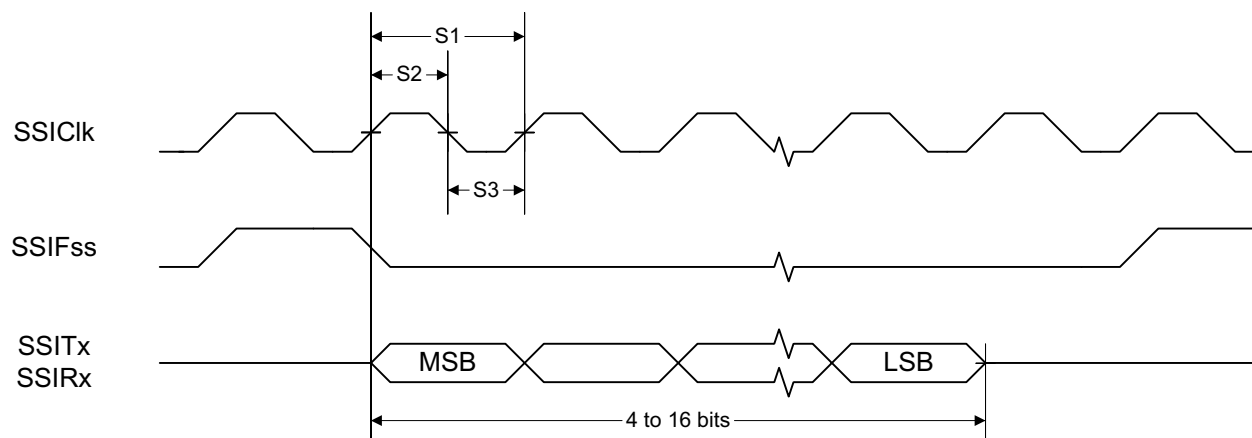
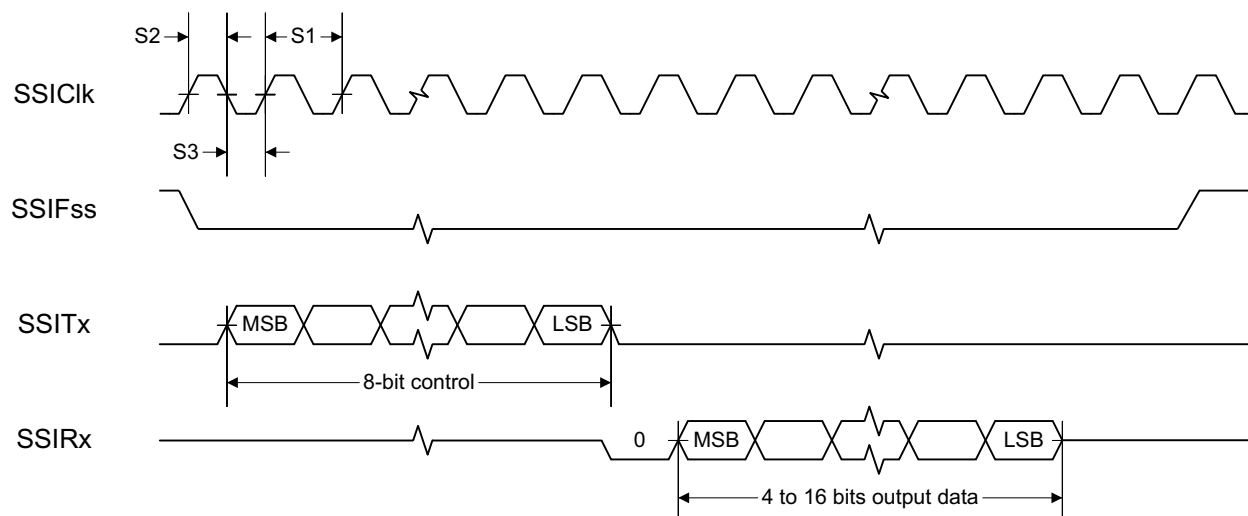
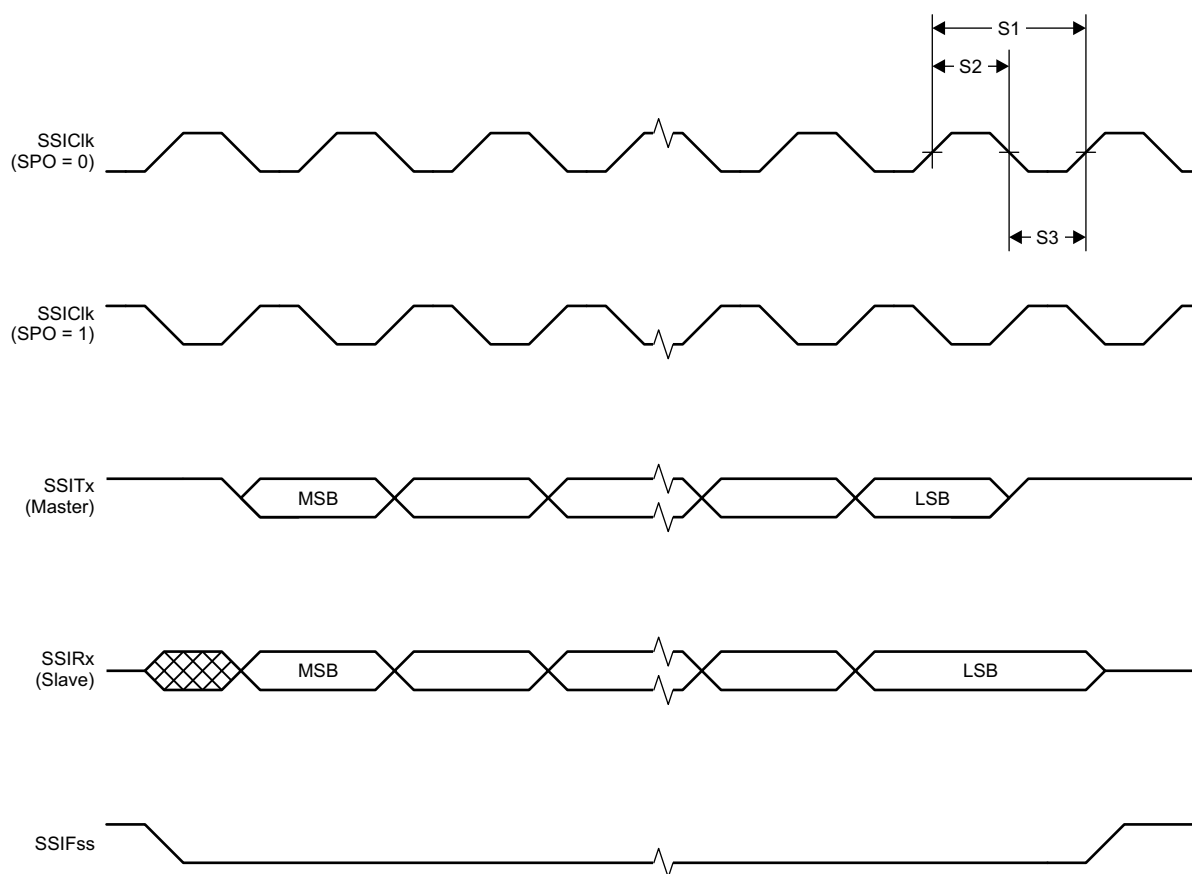

Figure 5-1. SSI Timing for TI Frame Format (FRF = 01), Single Transfer Timing Measurement
Figure 5-2. SSI Timing for MICROWIRE Frame Format (FRF = 10), Single Transfer
Figure 5-3. SSI Timing for SPI Frame Format (FRF = 00), With SPH = 1
- (2) Applications using RCOSC_LF as sleep timer must also consider the drift in frequency caused by a change in temperature (see Section 5.11).
- (3) T_A = –40°C to 85°C, V_{DD}S = 1.7 V to 3.8 V, unless otherwise noted.
- (4) T_C = 25°C, V_{DD}S = 3.0 V, unless otherwise noted. Device operating as SLAVE. For SSI MASTER operation, see Section 5.21.
- (5) Refer to SSI timing diagrams Figure 5-1, Figure 5-2, and Figure 5-3.
- (1) Device operating as MASTER. For SSI SLAVE operation, see Section 5.20.
- (2) Refer to SSI timing diagrams Figure 5-1, Figure 5-2, and Figure 5-3.